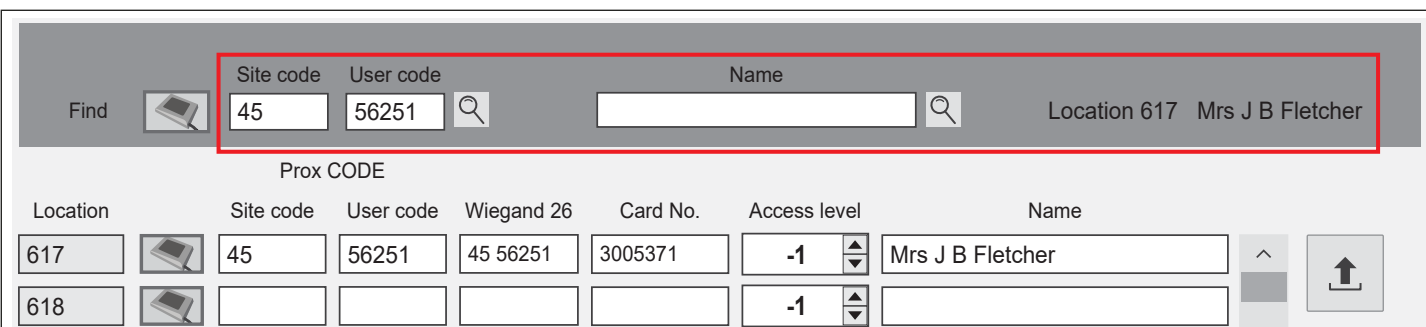

Fig. 65
- Next click on the search button . After a brief delay the location of the fob/card and user's name will appear to the right of the **name field**, **Fig.65**. Like in the previous example, **Fig.62**, the prox window will jump directly to the location where the user's fob/card details are stored.